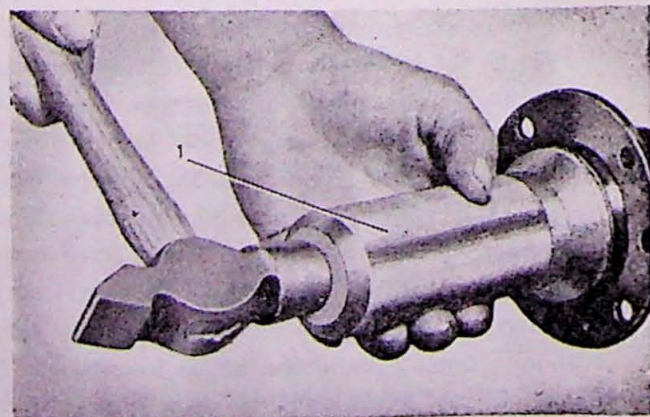

Fig. 5-30. Fitting the bearing race
3. Pack in the bearings with heat-resistant grease. Fit the axle shaft in the rear axle housing. Drive in the bearing outer races with tool SVO 2205, see Fig. 5-30.